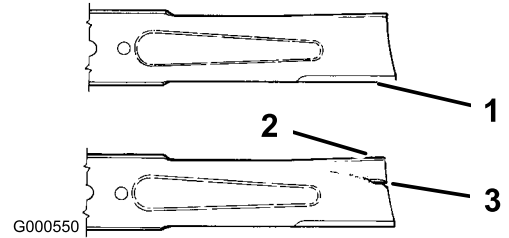

Figure 38
1. Inspect the cutting edges (Figure 38). If the edges are not sharp or have nicks, remove and
2. Inspect the blades, especially the curved area (Figure 38). If you notice any damage, wear, or a slot forming in this area (item 3 in Figure 38), immediately install a new blade.